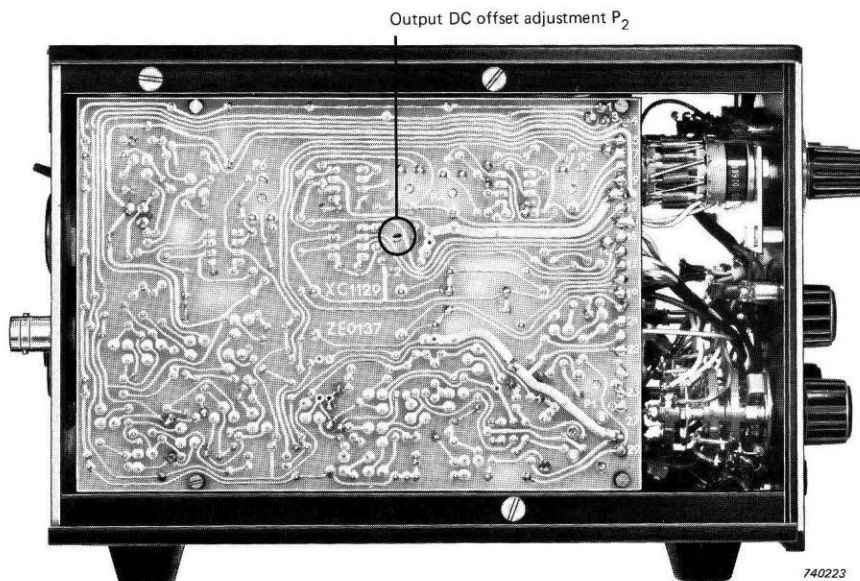

Fig. 3.3. Output DC offset adjustment potentiometer P_2
6. Using a small insulated screwdriver adjust the preset potentiometer P_2 (see Fig.3.3) so that the output DC offset voltage indicated by the voltmeter is zero.